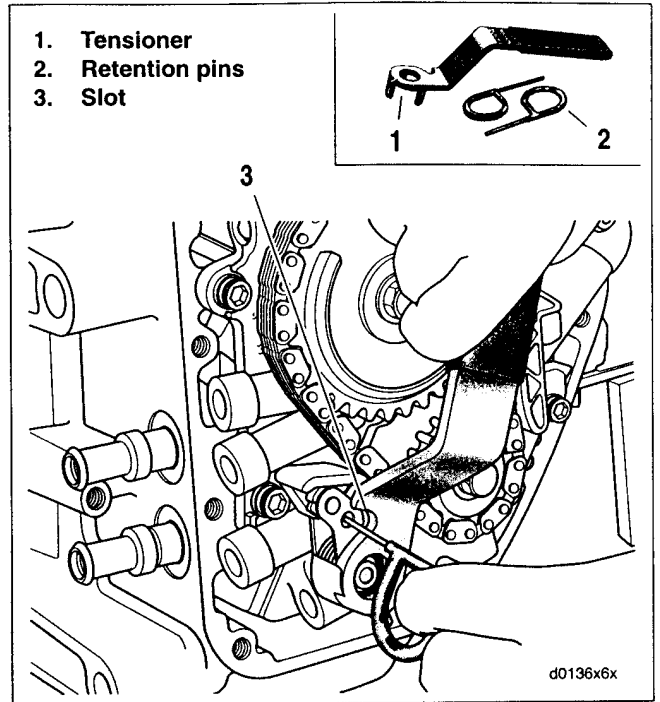

Figure 3-53. Retract Rear Cam Chain Tensioner
6. Use CAM CHAIN TENSIONER UNLOADER (Part No. HD-42313) to retract primary cam chain tensioner (6).
- a. See Figure 3-53. With the handle pointing toward the front of the cam support plate, place cup of tool over spring coil. Correctly positioned, the slot (3) in the tool should be adjacent to the hole in the tensioner.